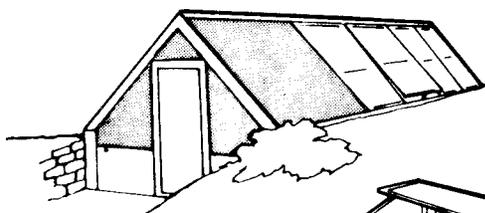

Figure 6.
**Pit houses** (Fig. 6) are unusual in Tennessee, yet have some very definite advantages. They are built partially below ground (usually 3 to 4 feet), often attached on the south side of another building and are normally used like a coldframe with only bottom heat provided. They are less expensive to build and require less heat if you want to maintain a constant temperature.